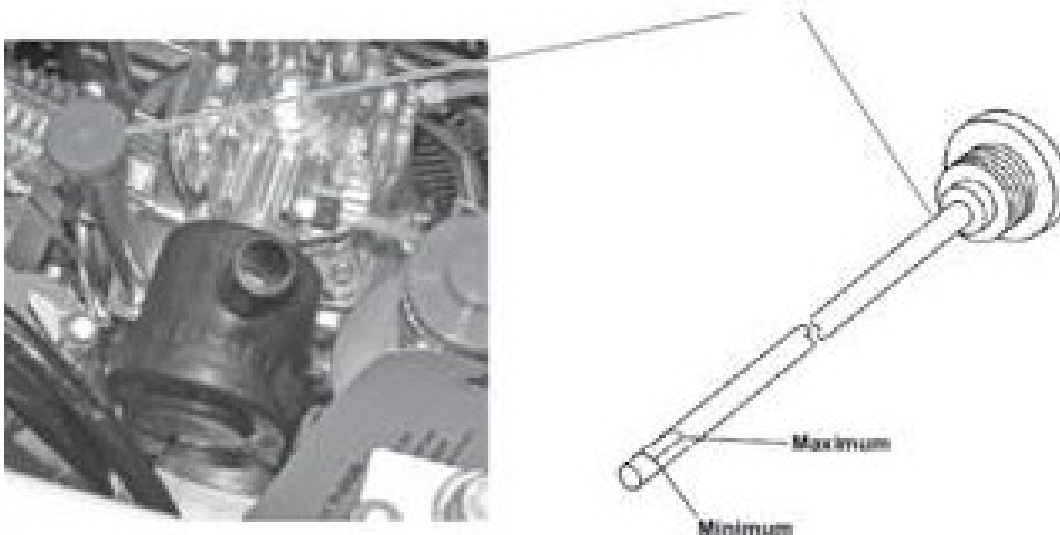

Figure 551-8ST-1004\_21 (Compressor Crankcase Dipstick)
- (1) Inspect the compressor crankcase for leaks.
- (2) Check the oil level in the compressor crankcase by performing the following steps:
- (d) The oil level should be between the minimum mark and the maximum mark. (Figure 551-8ST-1004\_21)